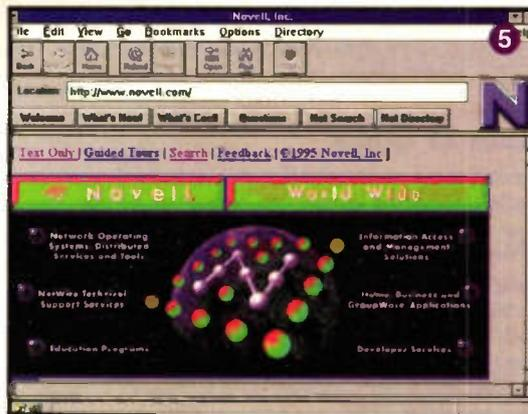

Figure 5. Novell's Internet publisher for use with WordPerfect 6.1 can be downloaded from the Novell WWW site.
IMPORTANT! It is essential that a connection link is made between the neutral (N) and earth (E) pins on the Euro outlet socket, which should be implemented using green/yellow mains earth cable (see diagrams showing the Euro socket and annotated section of the circuit diagram). This is required in addition to the earth wire that is connected between the earth pin on the Euro socket and the chassis (metal box), described within the Inverter article on page 40 of Issue 98. These are needed to ensure adequate earthing of the unit, and to allow correct operation of an RCD, should one be used in conjunction with the unit. Additionally, references to transformer 'T2' made in Figures 5, 7 and 8 should instead state 'TF2'.
Internet Publisher for Windows is a free add-on for WordPerfect 6.1, which allows users to create and view documents on the Internet without having to learn hypertext mark-up language (HTML), the original document format of the WWW. The software, which also includes Netscape Navigator, can be downloaded at <http://www.novell.com>, as shown in Figure 5.